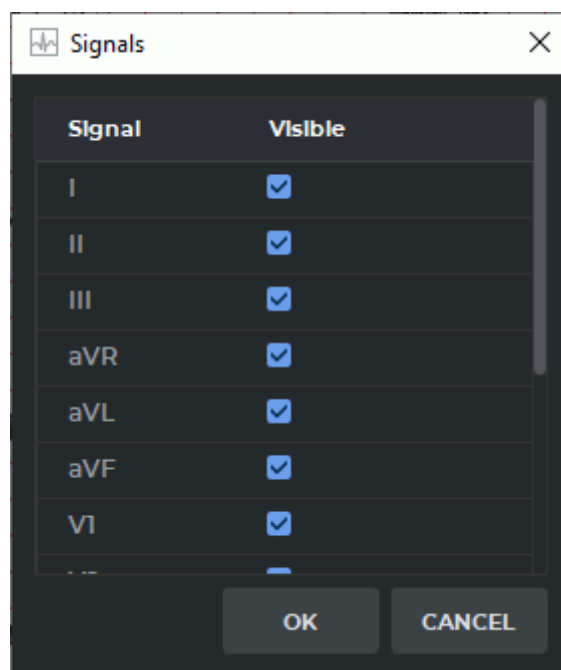

Figure 10.4: Lead selection window
1. Click the **Set visible leads**  button on the toolbar. The window shown in Fig. 10.4 will be displayed.